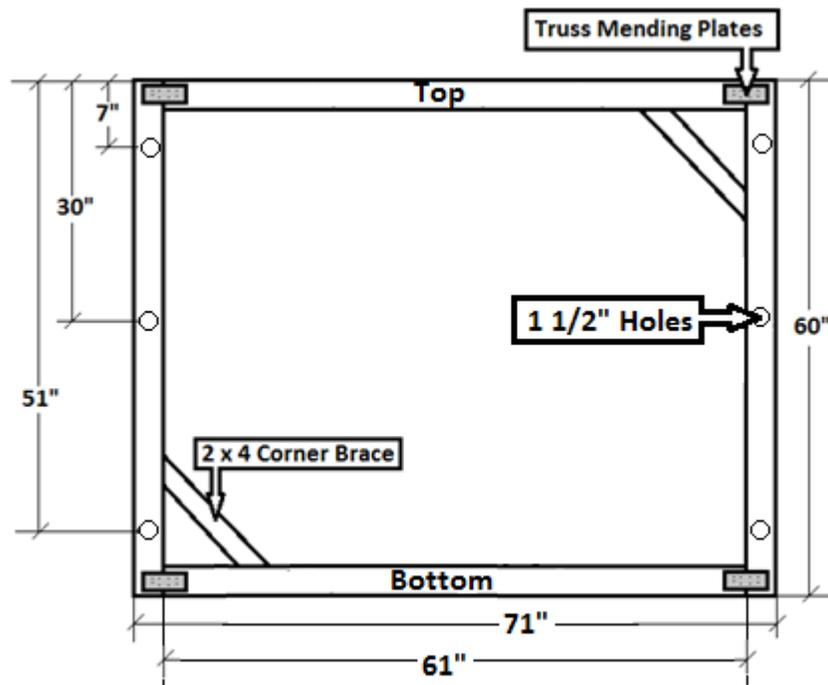
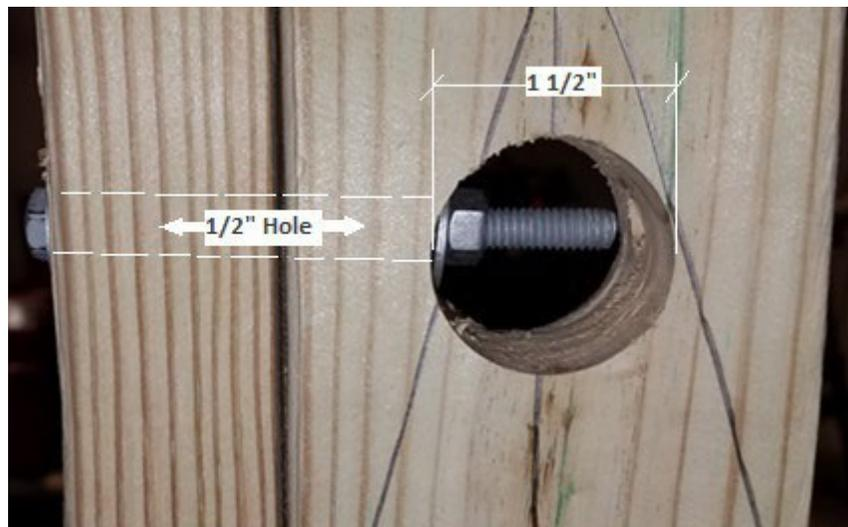

Figure 2-6
Figure 2-7
1. Although they are different dimensions (Figure 2-6), the sides are constructed in the exact same manner as the end sections. Drill holes on sides in the same locations, centered, with 1 1/2" spade or hole saw bit with 1/2" hole from side extending through (Figure 2-7).